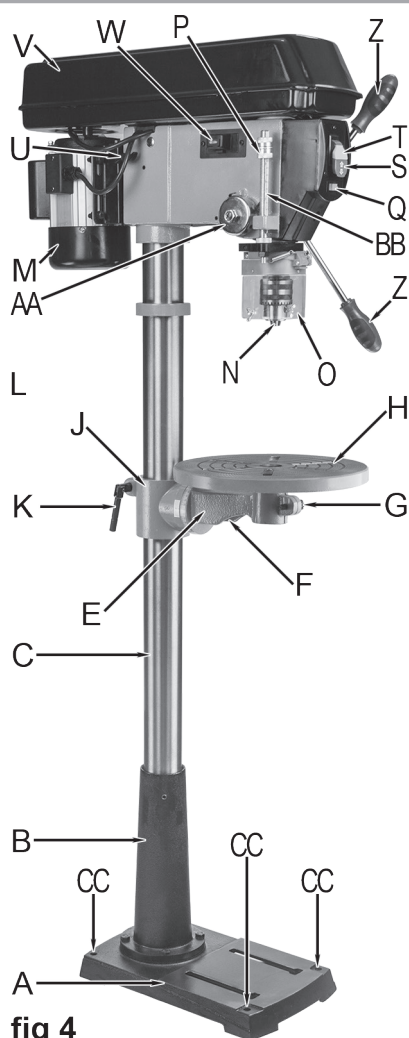

fig 4
1. Place the base (A, fig 4 & 5) on the floor.
2. Place the column assembly, (C, fig 4 & 5) on the base with the column support (B, fig 4 & 5) at the bottom, the rack collar (L, fig 4 & 5) at the top and the rack (D, fig 4) running between them. Align the column support holes with the base holes.
7. Slide the table support crank handle (I, fig 4 & 5) onto the worm shaft protruding from the side of the table support. Fasten it with the set screw, making sure the set screw is aligned with the flat of the shaft and as close to the table support as possible. Tighten the set screw.
8. Place the table (H, fig 4 & 5) on the other end of the table support arm (E, fig 4 & 5).
9. Tighten the table lock (G, fig 4 & 5).
10. Orient the table support arm in the same direction as the base, and tighten the table support lock (K, fig 4 & 5).
3. Using a 5 mm hex (Allen) key, fasten the head assembly in place by tightening the two head lock set screws (R, fig 4) in the right side of the head casting.
4. Screw the three feed handles (Z, fig 4 & 5) into the the threaded holes in the hub. Instead of using the knobs for leverage and possibly stripping them, use a 10 mm wrench on the flats at the threaded ends of the handles to tighten, but take care to fasten them only hand tight.
2. Loosen the left and right side belt tension lock knobs (U, fig 4 & 5).
11. Clamp the chuck safety guard (O, fig 4 & 5) around the lower exposed part of the quill tube. Do not over-tighten.